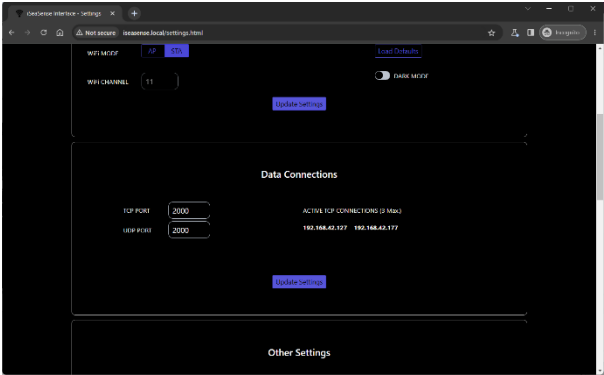

Figure 13
- Ports Setting – the Port number (default = 2000) that iSeaSense uses for UDP and TCP connections (Fig 13)
The only reason to change the Port settings from the default 2000, is if that port is being used by another device. In this case change the value as shown in Fig 13.